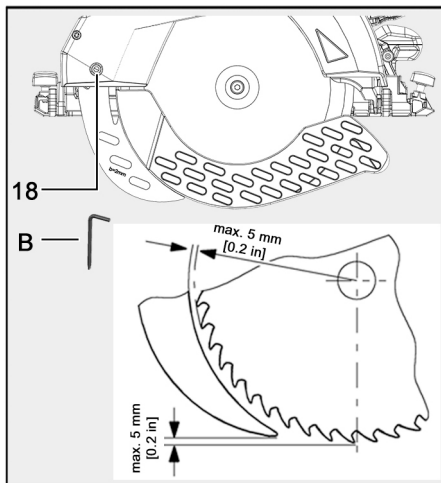

Fig. 10: Distance riving knife to saw blade
2. Using the Allen key (B) provided, turn the screw (18) **counterclockwise** to adjust.
- Do not exceed the maximum distance to the saw blade (see Fig. 10).
4. Using the Allen key (B), turn the flange screw (18) **clockwise** to tighten it.